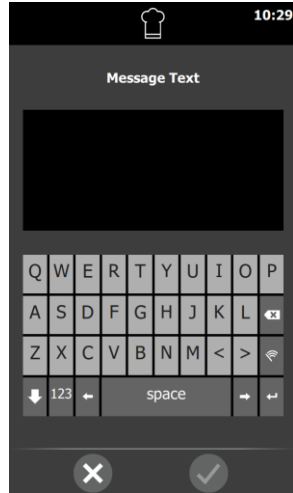

Figure 11
- The input limitations for Message entry shall be 4 lines with a maximum of 20 characters per line. (Figure 11)